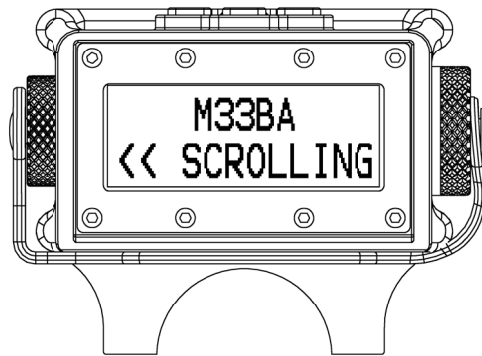

Figure 4-2
3. Press and release the  button to select the menu item. The currently selected cartridge will be displayed in the top row with the cartridge description in the bottom row. Depending on the description length, the words may scroll across the bottom of the screen. Figure 4-2